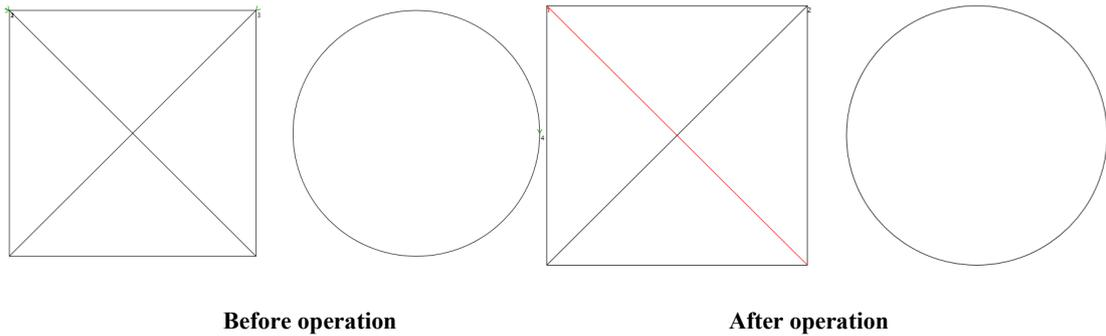

Fig. 5.3.14c Schematic Diagram of Variable Layer Operation
② Select a new layer and click the "OK" button. The selected graphic will become the first graphic of layer 2, and the relative graphic color will change. The operation diagram is shown in Fig. 5.3.14c below.